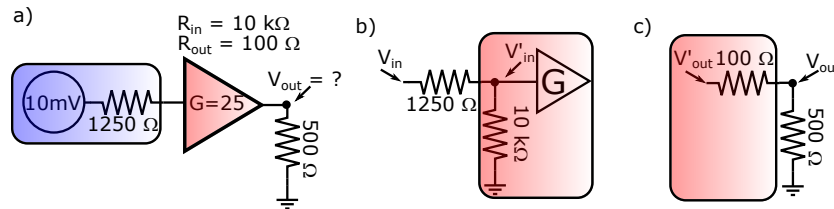

Figure 14: Example Problem.
**Design Example:** Consider a real amplifier with  $R_{in} = 10\text{ k}\Omega$ ,  $R_F = 100\ \Omega$ , and  $G = 25$ . We use it to amplify a  $10\text{ mV}$  signal from a photodetector having  $R_{out,PD} = 1250\ \Omega$  and send it to a (lousy) voltmeter with  $R_{in,LVM} = 500\ \Omega$  (see figure 14). What is the voltage measured (a) assuming an ideal  $G = 25$  amplifier, and (b) with our real amplifier?